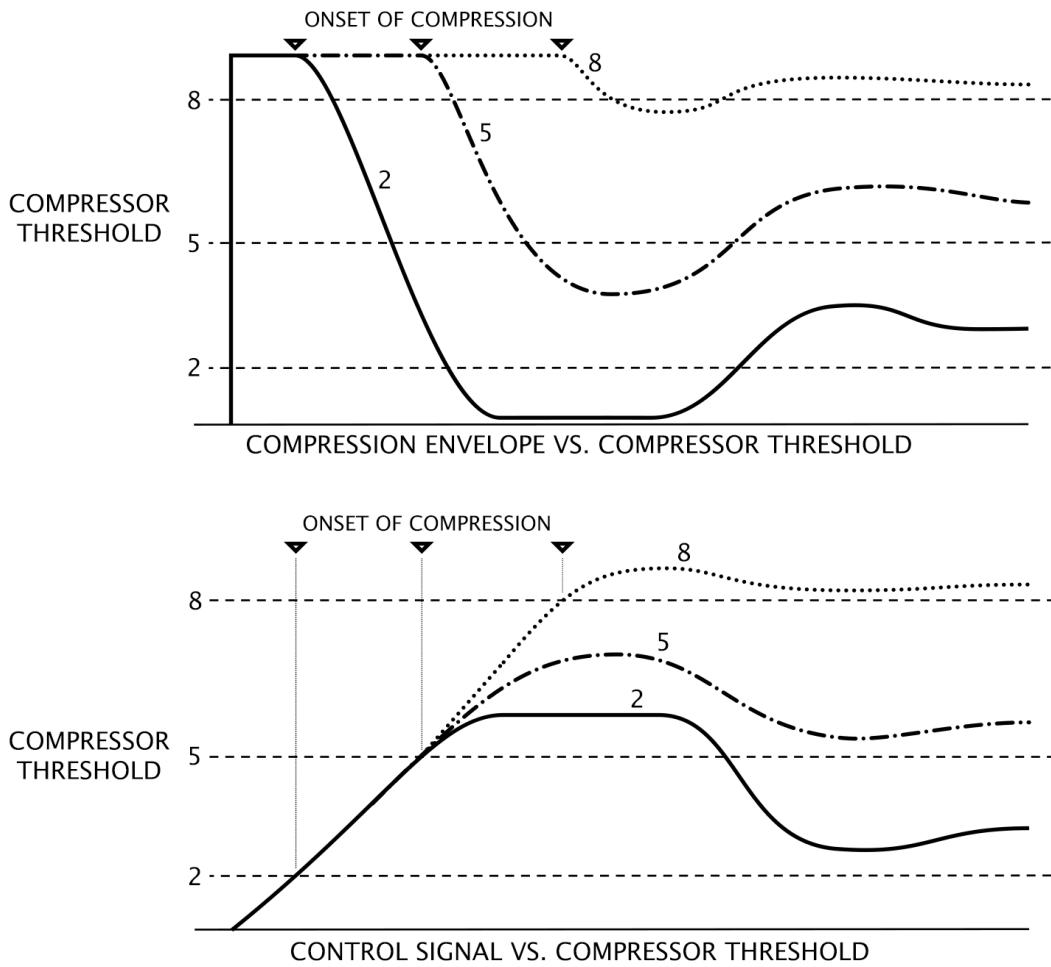

FIGURE 4: EFFECT OF COMPRESSOR THRESHOLD
**THRESHOLD TIMING:** In a typical compressor the threshold comes before the attack and release (timing) controls. Once the signal goes over the threshold the attack and release times are fixed. The Comptroller reverses this by having the threshold after the timing controls. The practical result is that the threshold level affects the attack and release times. Figure 4 shows the response for three different threshold levels. When the signal initially rises, the timing circuit starts to charge up, creating a voltage ramp over time. When this voltage goes over the threshold compression starts. Because of the ramp the onset of compression comes later with higher thresholds. There is a similar ramp down when the input signal stops, which has the opposite effect on release. The general relationship is: **high threshold = slow attack & fast release** and **low threshold = fast attack & slow release**. The timing controls can be adjusted to compensate for this effect (to a certain extent).